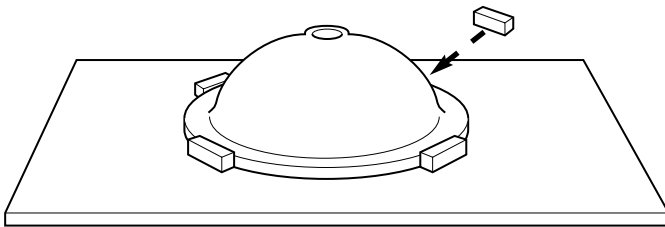

Figure 27
- Use hot melt glue to adhere position blocks to the sheet (see Figure 27).